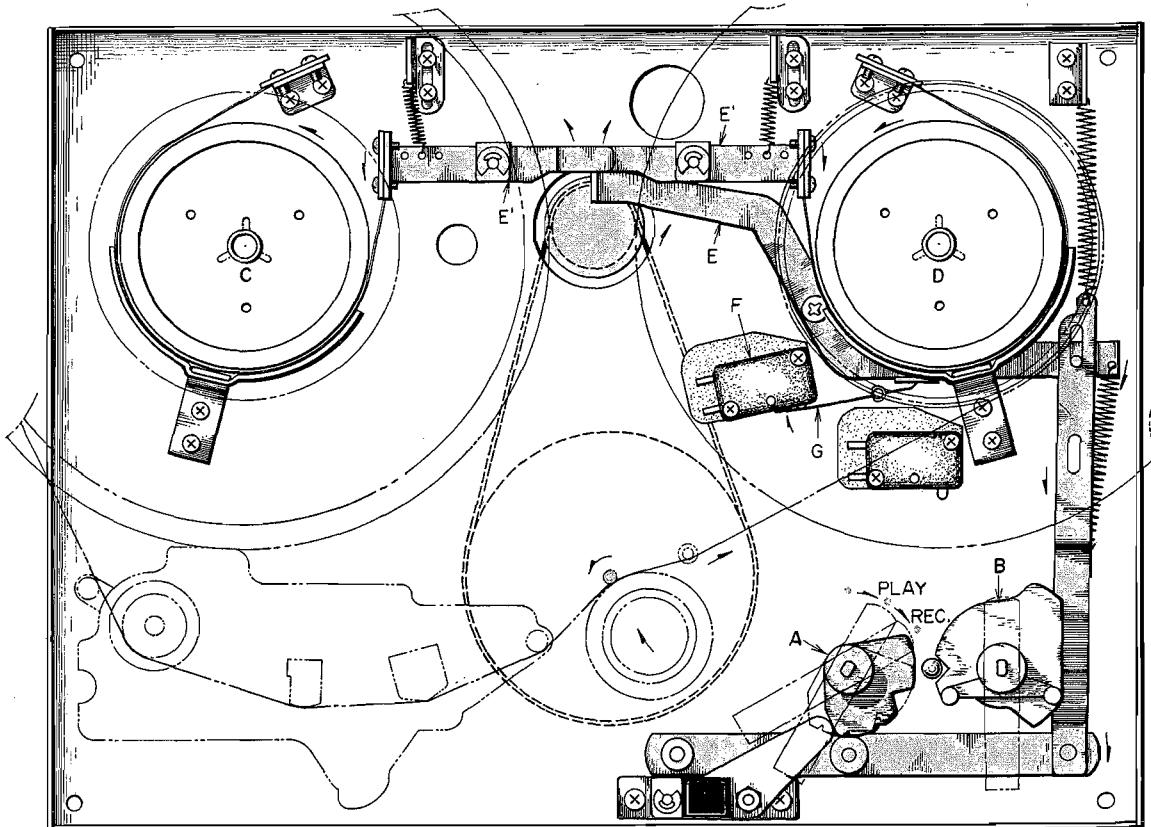

Fig. 9 FWD P.B./RECORDING REVERSE MODE
1. FORWARD PLAYBACK/RECORDING MODE (Refer to Fig. 9)